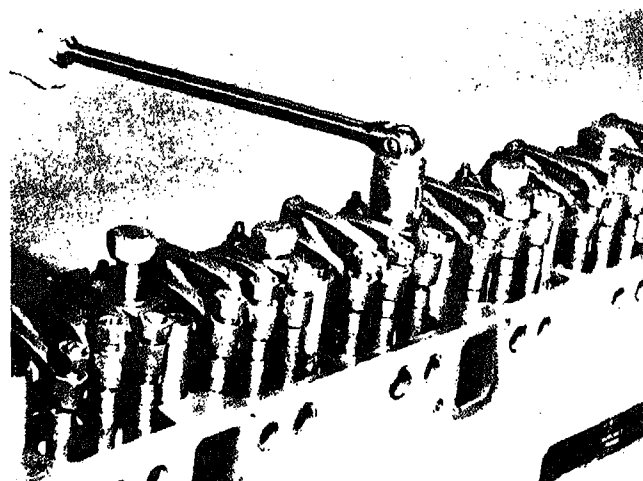

Fig. 0-32. Removing cylinder head mounting capscrews
2. Remove cap screws and flatwashers securing rocker lever assembly and cylinder head to block, Fig. 0-32.